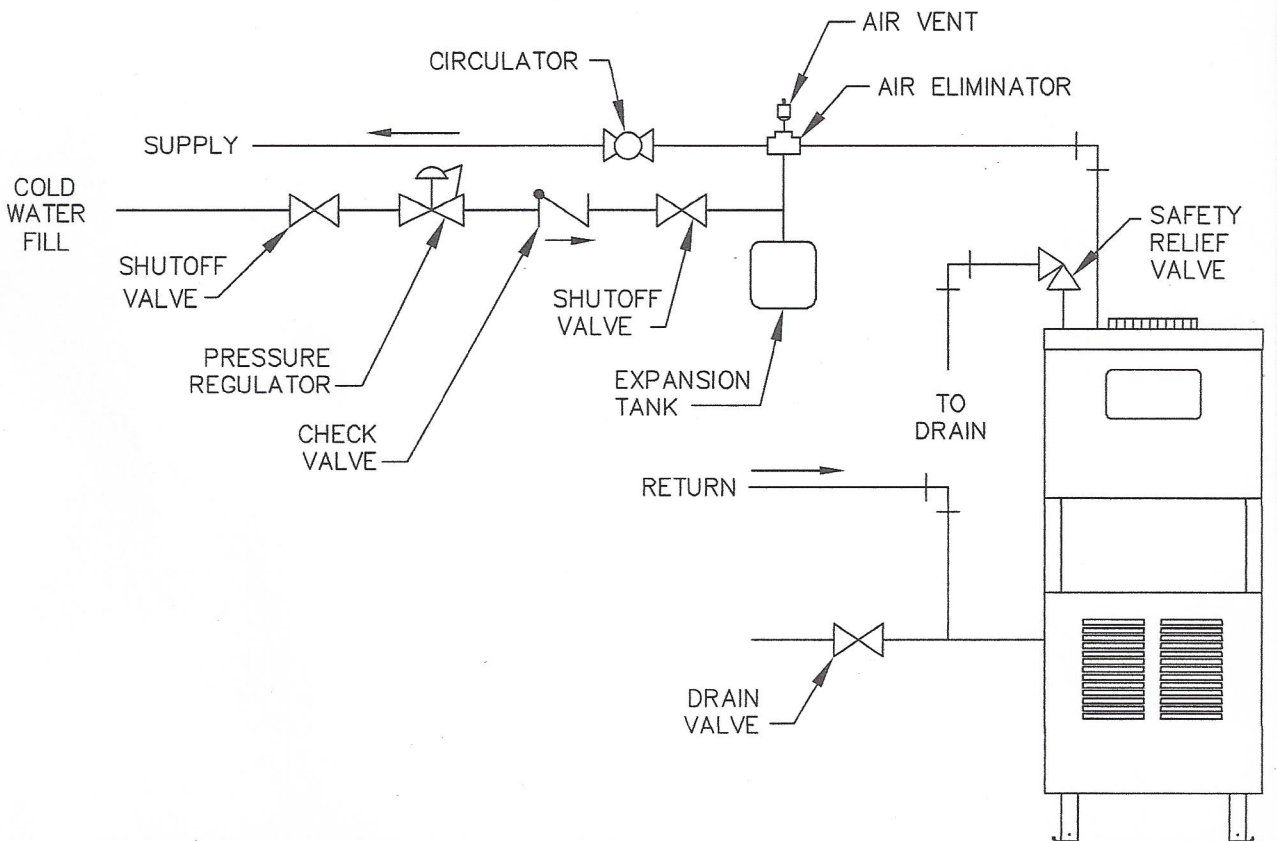

Figure 3.1: Supply and Return Piping
1. Size the supply and return to suit the system. A typical piping arrangement is shown in Figure 3.1. Refer also to the I=B=R Guide - Residential Hydronic Heating Installation/Design and the PB Heat Water Survey for additional guidance during water piping installation.
Pipe the drain valve to a tee, provided, and the 1-1/4 NPT return tapping near the bottom of the left section. Pipe the return to the tee. Pipe the drain valve nipples and tee to the 1-1/4 NPT return tapping as shown in Figure 3.1.